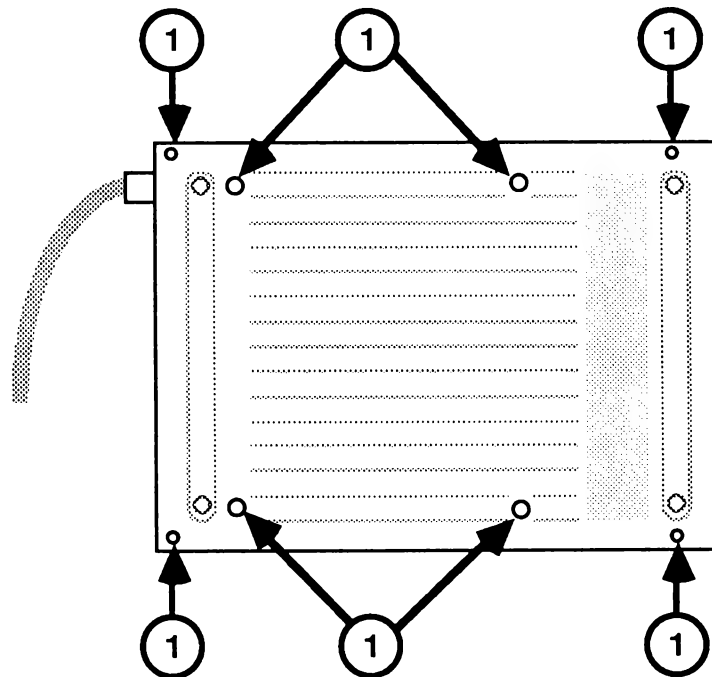

FIGURE 1
2. Remove the eight Phillips screws (Figure 1, #1).